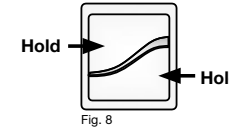

Fig. 8
3. Press and hold the UP and DOWN buttons until the LED turns amber (about three seconds), then release buttons. (Fig. 8)